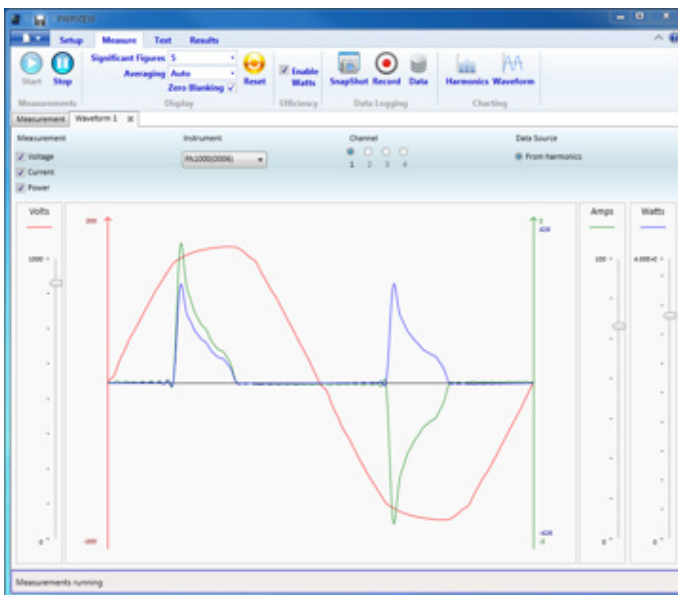
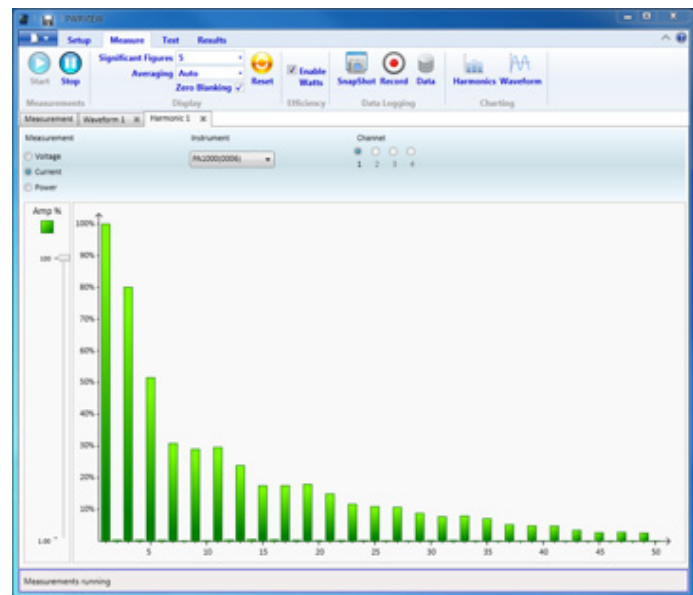

Figure 17. Waveform display.
Figure 18. Harmonic bar chart display.
- PWRVIEW can also be used to view waveforms and bar charts as shown in following Figure 17 and Figure 18 respectively.